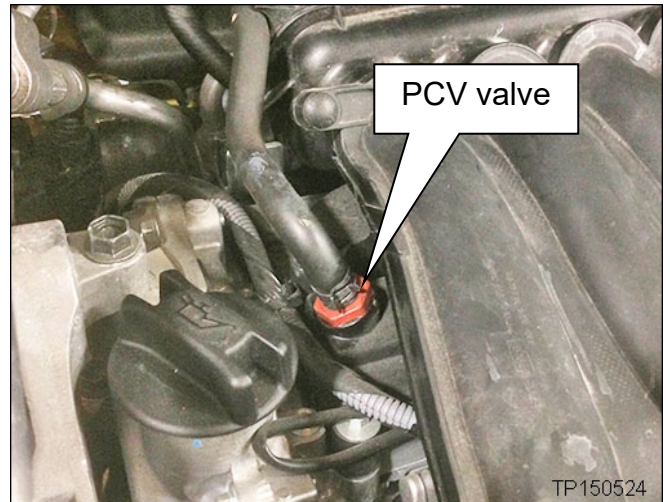

Figure 1a
- Inspect the color of the PCV valve, replace if the color is orange (see Figure 1a on page 3).
If the PCV valve is orange, as shown in Figure 1a: